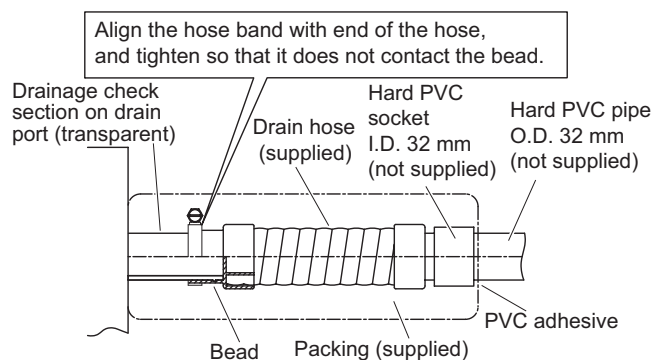

Fig. 2-168
- (1) Prepare standard hard PVC pipe (O.D. 32 mm) for the drain and use the supplied drain hose and hose band to prevent water leaks. The PVC pipe must be purchased separately. The unit's transparent drain port allows you to check drainage. (Fig. 2-168)
- Insert the drain pipe until it contacts the socket, as shown in Fig. 2-168, then secure it tightly with the hose band.
- Tighten the hose clamps so their locking nuts face upward. (Fig. 2-168)